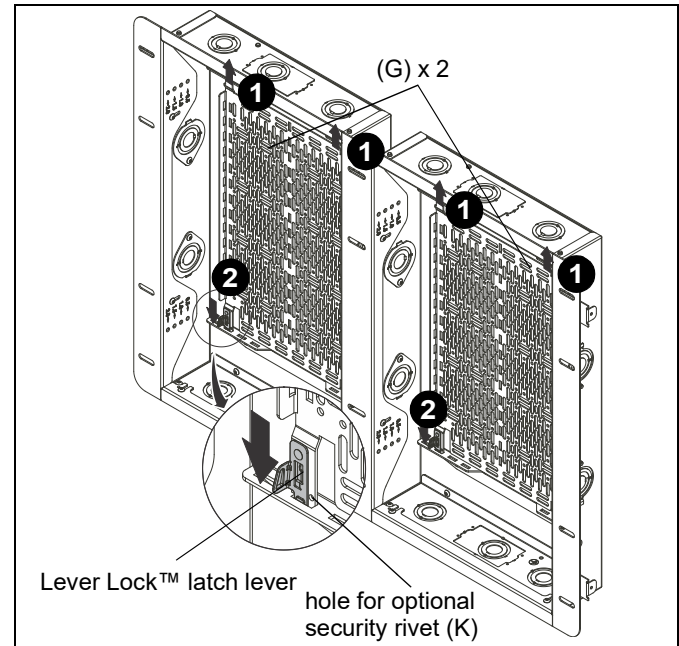

Figure 18
1. Slide Lever Lock™ backplanes (G) into slots on top side of boxes. (See Figure 18)
2. Slide Lever Lock™ backplanes (G) into slots on opposite side, making sure they "click" into place. (See Figure 18)